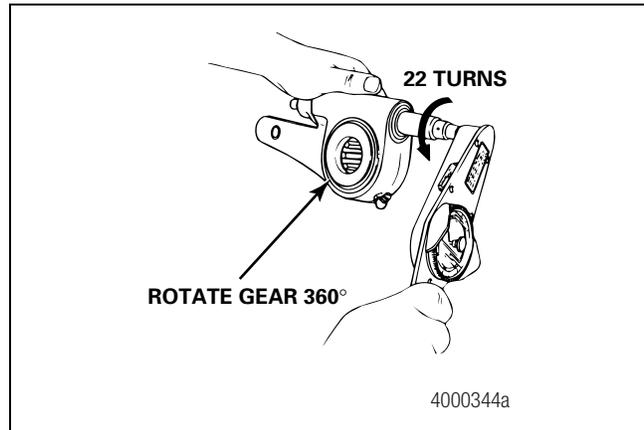

Figure 4.4
5. Use a lb-in torque wrench and turn the adjusting nut **COUNTERCLOCKWISE** to rotate the gear 360 degrees, or 22 turns of the wrench, as you read the torque scale on the wrench. The value should be less than 25 lb-in (2.83 N•m) as you rotate the gear. Figure 4.4.